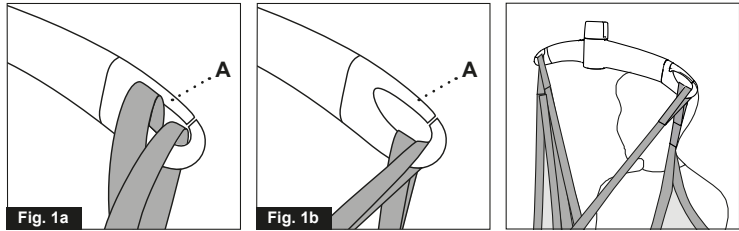

**Fig. 1**
**Be careful when attaching the lifting sling's straps on the hooks. Check that the straps have been correctly placed in the lifting hanger's hooks. When pressing the up button on the hand control to lift the user, check again that all straps remain correctly placed in the lifting hanger's hooks (Fig. 1).**